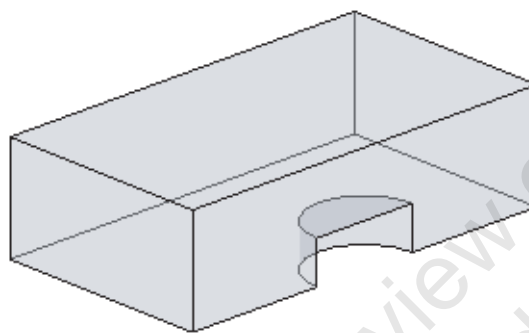

Figure 1–100
4. How do you cut a portion out of a conceptual mass element, as shown in Figure 1–100?